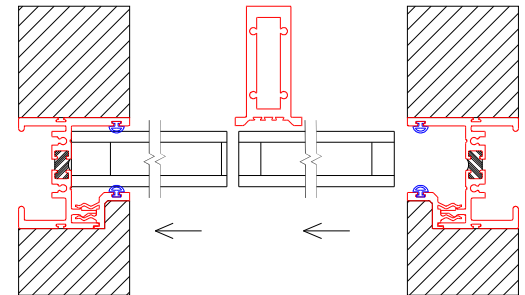

Figure A2:
2. Slide either end of the glass (left or right lite) into the jamb. Move the next piece of glass in the same direction as the previous (Figure A2).